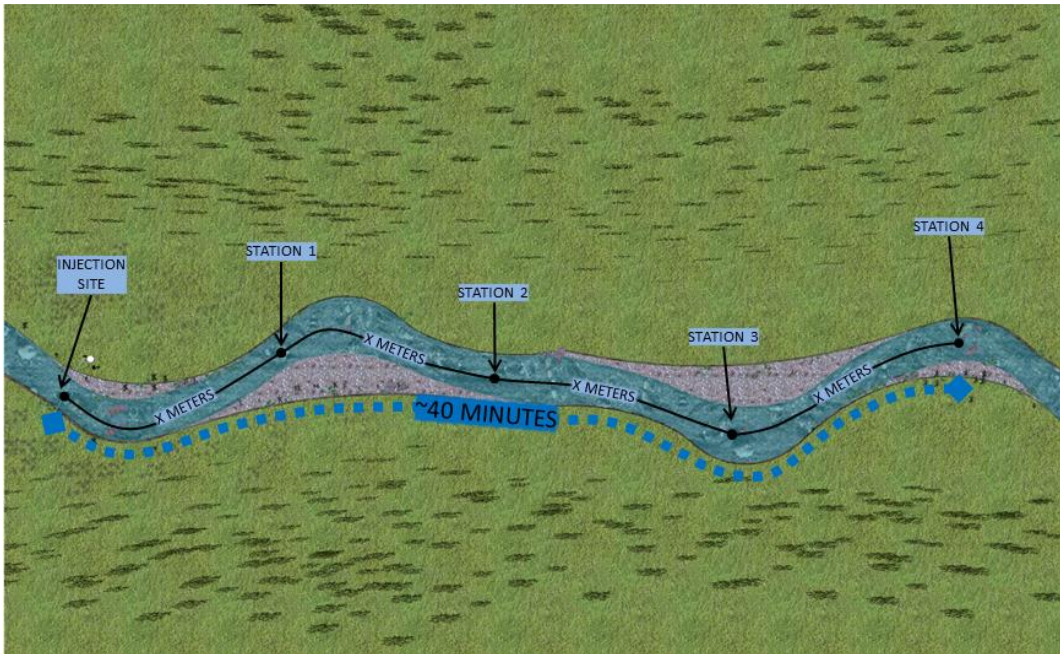

Figure 4. Schematic of stream reach with injection site and four downstream sampling stations. Travel time between Station 1 and 4 should be ~40 minutes.
- a. There will be 4 sampling stations within the reach, located downstream of the injection site (Figure 4).
1. First, visit each of the four sampling stations (Figure 4), and at each station record four conductivity measurements from the stream thalweg (i.e. the main flow of the stream), for a total of 16 conductivity measurements (See RD[05], Field Data Sheets). Make sure the hand-held conductivity meter is set on the temperature-corrected setting and units (SPC, uS/cm). If the setting is not correct, press the mode button until you enter the temperature-corrected mode. Wait for the meter to adjust to the stream temperature for more accurate conductivity measurements.
14. Once the most DOWNSTREAM station has reached plateau, start sampling at the most UPSTREAM station (i.e., Station 1, the station closest to the injection site) and work downstream (Figure 4). The idea is that you are following a parcel of water as it moves downstream.